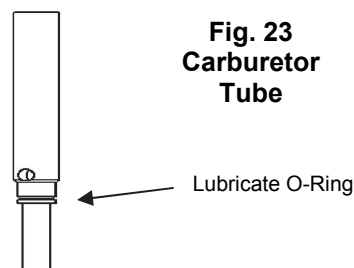

Fig. 23
3. Install the o-ring on each carburetor tube (Fig. 23). Apply a lubricant (SaniGel p/n 1150 recommended) sparingly over the o-rings. Place the carburetor tubes in the bottom of the mix pans for sanitizing. Be certain that lubricant does not block the mix inlet hole on the carburetor tube.